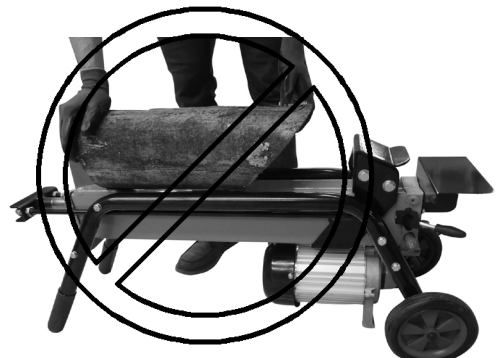

Figure 8
- Make sure both ends of the log you are splitting are cut as square as possible. This will prevent the log from sliding out of position while under pressure (**Figure 8**).